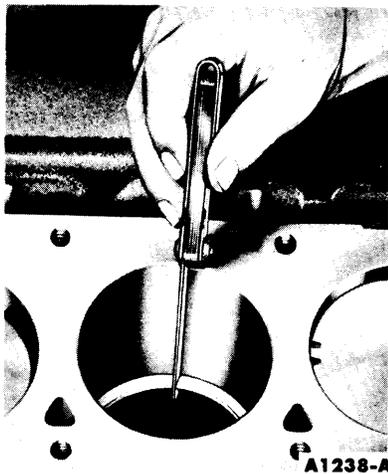

FIG. 68—Piston Ring Gap
5. Measure the gap between the ends of the ring with a feeler gauge (Fig. 68). If the gap is less than the recommended lower limit, try another ring set.